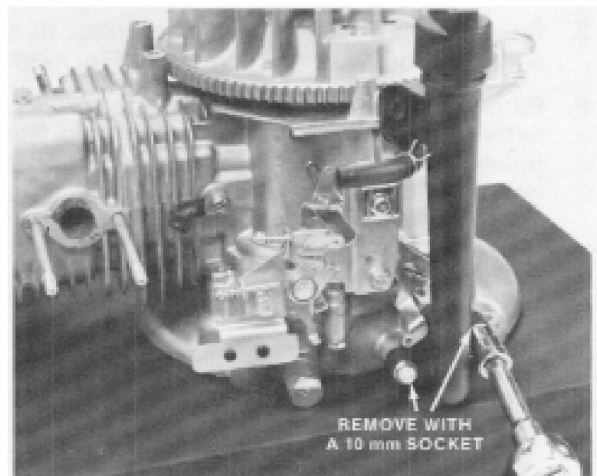

Figure 4-3
2. Remove the two screws retaining the oil fill tube. Use a 10 mm socket. See Fig. 4-3.